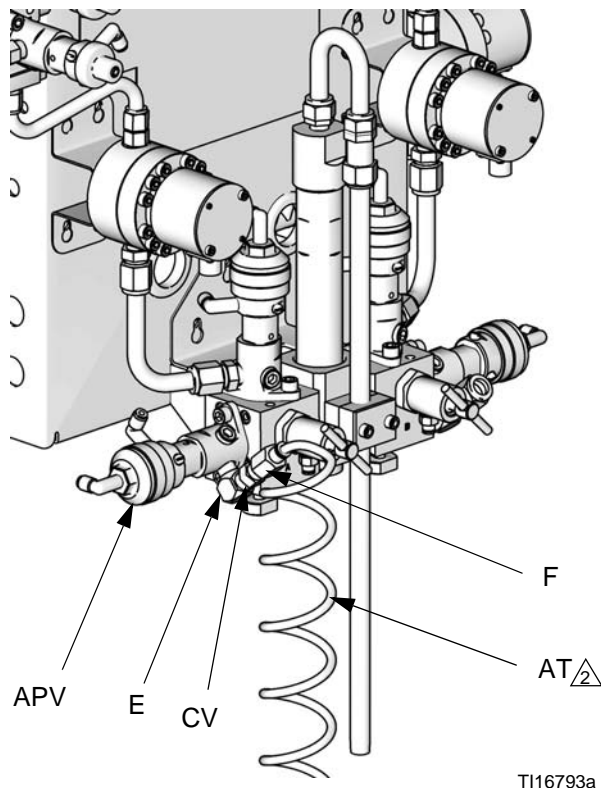

FIG. 5. Purge Air Supply Tube and Check Valve
5. See FIG. 5. Install the supplied elbow (E), check valve (CV), and tube fitting (F) at the inlet of the air purge valve (APV). Use the 25 ft (7.6 m), 1/4 in. (6 mm) OD purge air tubing (AT, supplied) to connect a clean, dry air supply to the fitting (F) at the air purge valve inlet. Install filters/dryers as needed.